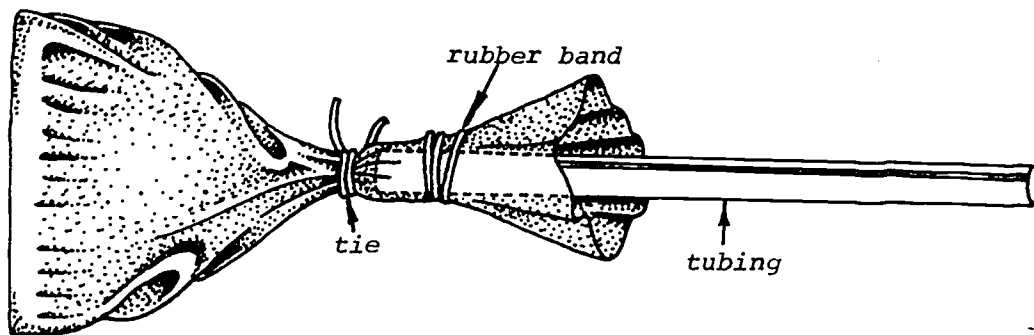

FIGURE 1: *Attaching tubing to the plastic bag.*
2. Attach a piece of tubing to the mouth of the bag with a rubber band without undoing the tie. (See Figure 1.)